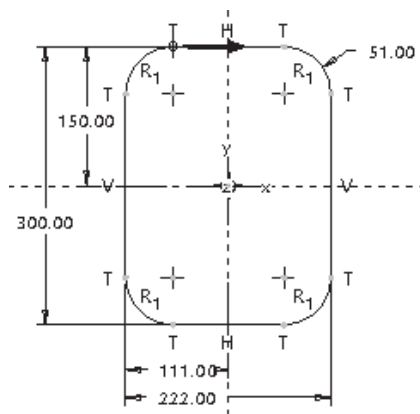

Figure 8-118 Sketch with dimensions and constraints for the first section
- Create the first section for the blend feature, refer to Figure 8-118.
3. Apply constraints and modify the dimensions of the sketch, as shown in Figure 8-118.